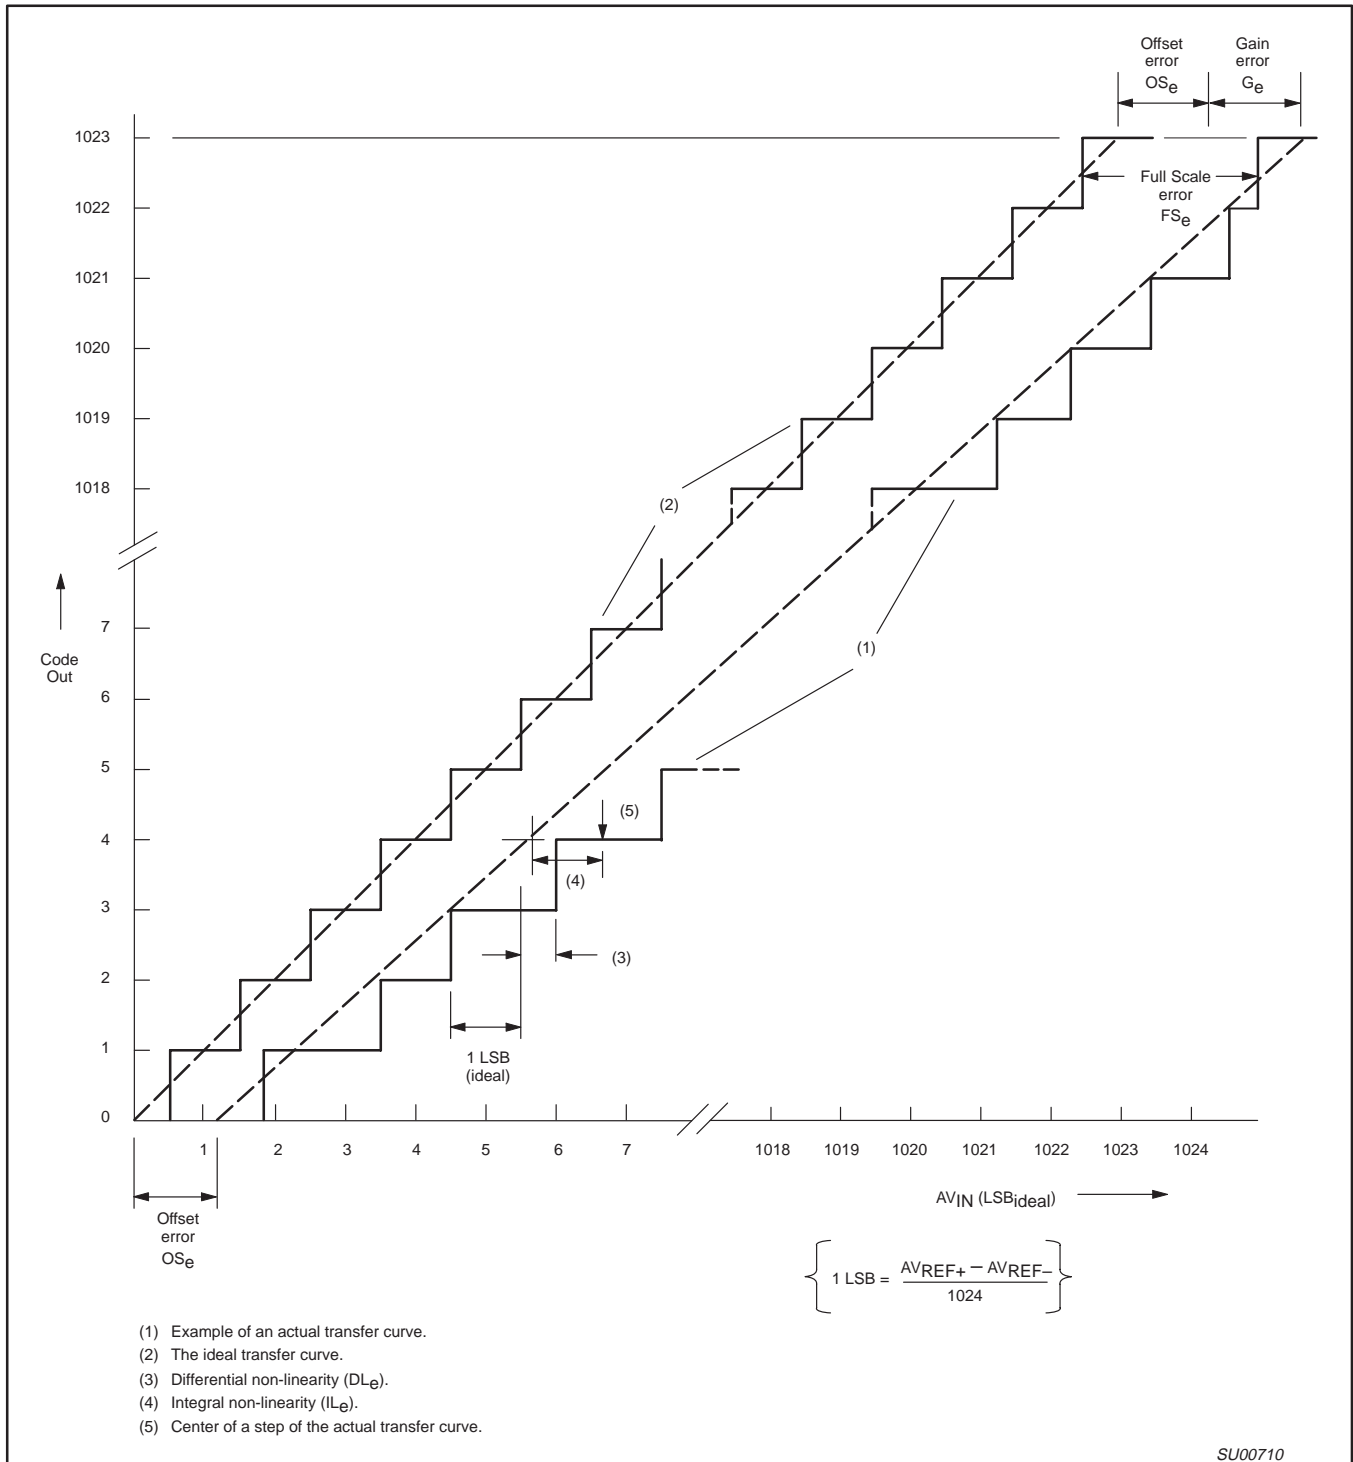

Figure 24. ADC Conversion Characteristic
- The differential non-linearity (DL_e) is the difference between the actual step width and the ideal step width. (See Figure 24).
- The integral non-linearity (IL_e) is the peak difference between the center of the steps of the actual and the ideal transfer curve after appropriate adjustment of gain and offset error. (See Figure 24).
- The offset error (OS_e) is the absolute difference between the straight line which fits the actual transfer curve (after removing gain error), and a straight line which fits the ideal transfer curve. (See Figure 24).